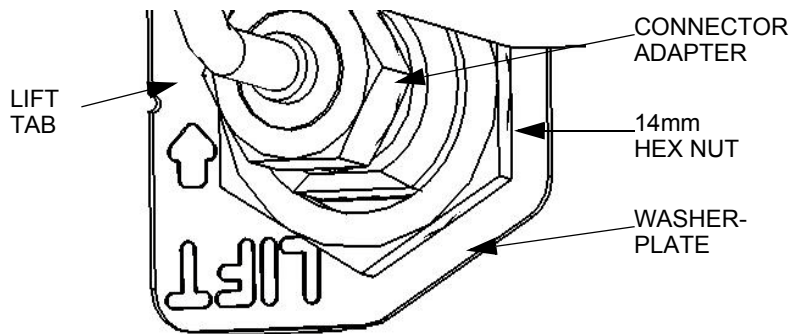

Figure 4-19. Connector-Adapter Parts
- 11 On the back side of the connector-adapter, place the washer plate and the 14mm hex nut over the SMA connector and secure. See figure 4-19.